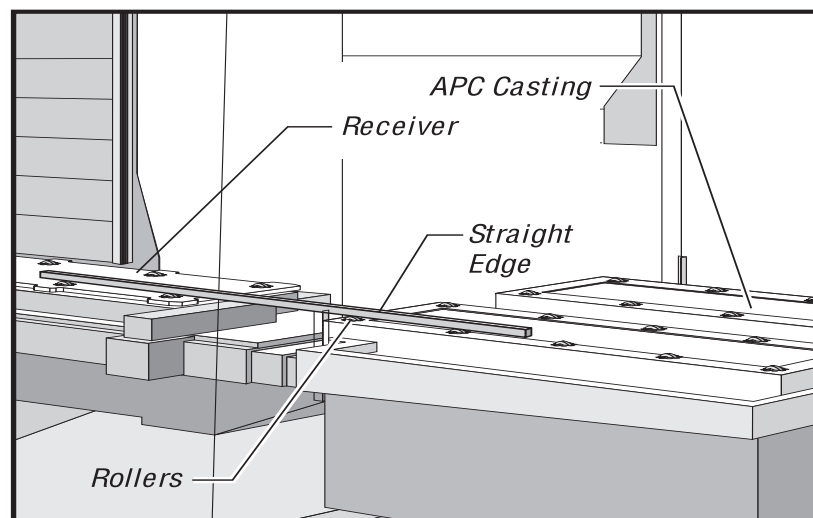

Figure 11.21 APC roller alignment setup.
12. Place the straight-edge on top of the rollers of both the VMC receiver (unclamped) and the APC, to check the APC height (see Figure 11.21). Make sure that at least 12" of the straight-edge is on each in order to get an accurate reading. Adjust the leveling screws in the APC legs until the straight-edge lays completely flat on all rollers.